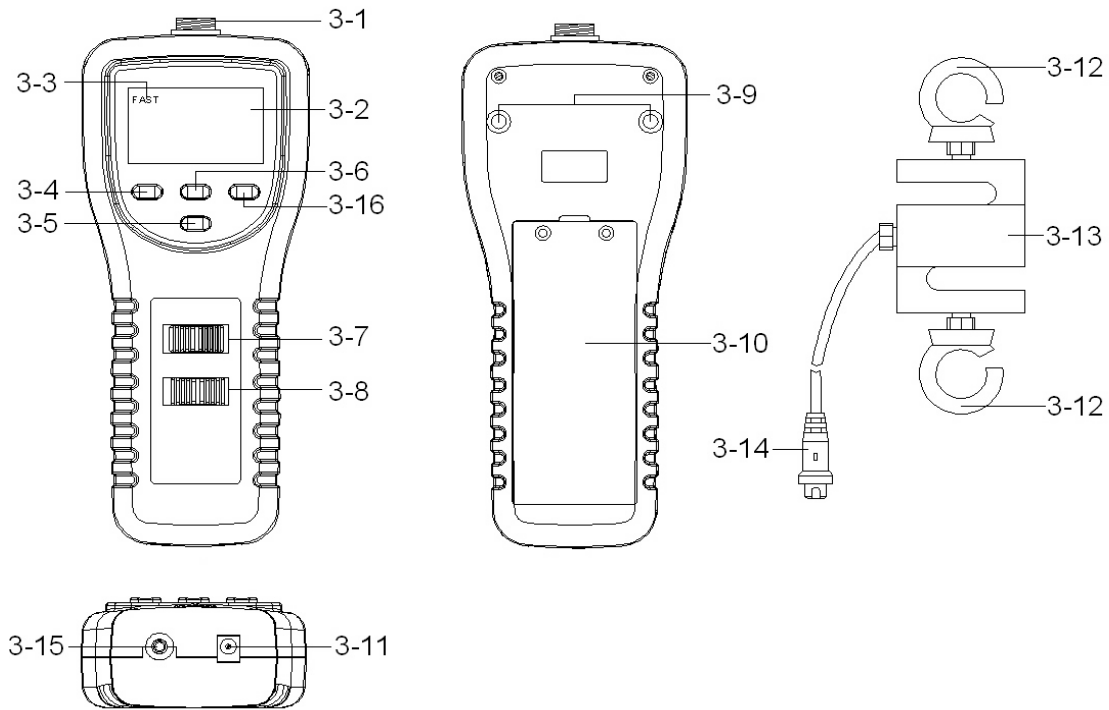

Fig. 1
- 2) When make the measurement, the " Sensor " (3-13, Fig. 1) should be on a line with measuring object.
- 3) Rotate the sensor's body is prohibited. Some certain angles between " Sensor " (3-13, Fig.1) & measuring object are not allowed.
- 1) Connect the " Sensor Plug " (3-14) to the " Sensor socket " (3-1, Fig.1).
Slide the " Power Off/On/Peak Hold Switch " (3-8, Fig. 1) to the " On " position.
- 2) Determine display unit of Kg, LB or Newton by selecting " Kg/LB/Newton Unit Switch " (3-7, Fig. 1).
- 3) Connect " Sensor " (3-13, Fig. 1) with the " Measuring Object " via the " Sensor hook " (3-12, Fig. 1) in straight line.
- 4) " Zero Adjust " by pushing " Zero Button " (3-6, Fig. 1) before every measurement.
** During the measurement, if intend to change the display direction, just push the " Reverse Button " (3-5, Fig. 1) once.*
- * There are two kind sampling time of display, FAST and SLOW. Push the " FAST/SLOW Button " once (3-4, Fig. 1), if the upper left corner of LCD shows " FAST " (Fast Indicator, 3-3, Fig. 1), then the display reading is under the operation of fast sampling time.
- * If the upper left corner of LCD not show the " Fast Indicator " (3-3, Fig. 1), the display reading is under the slow sampling time.
The meter can measure the peak value of force both of tension & compression operation. The operation procedures of Peak Hold Measurement are same as above " 4-2 Normal Measurement " but should slide the " Power Off/On/Peak Hold Switch " (3-8, Fig. 1) to the " PEAK H. " position.
Slide the " Power Off/On/Peak Hold Switch " (3-8, Fig. 1) to the " On " position will cancel the peak hold function.
During the measurement, press the " LCD Back Light Button " (3-16, Fig. 1) momentarily, will turn on the LCD Back Light structure approx. 15 seconds automatically then off.
- 2) Take out the battery cover (3-10, Fig. 1) away from the instrument and remove the batteries.
The instrument features an RS232 output via 3.5 mm Terminal (3-15, Fig. 1).